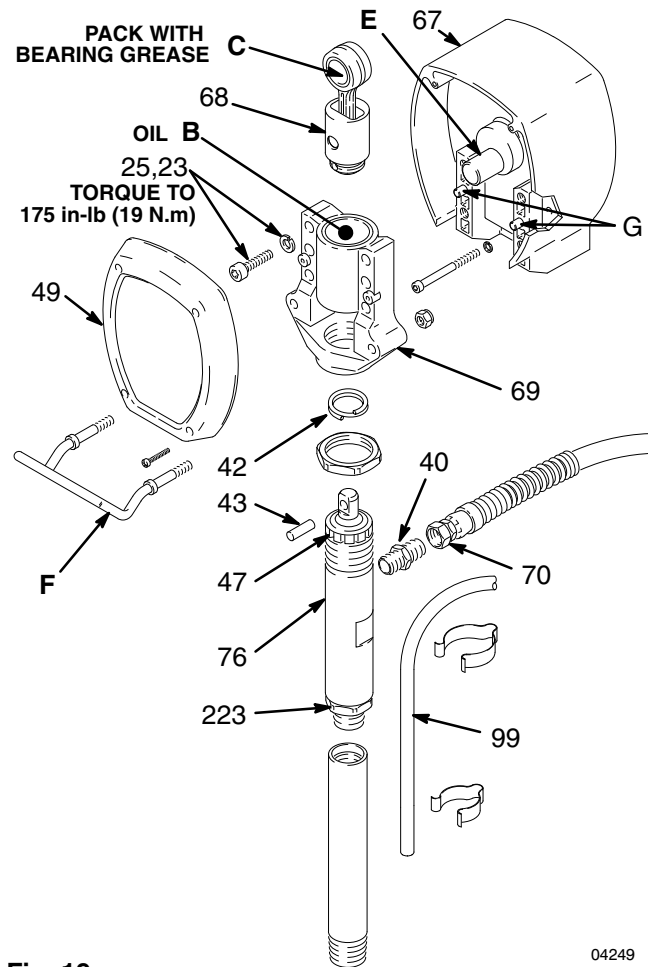

Fig. 19
Bearing Housing and Connecting Rod Replacement (Fig. 19)
4. Loosen the locknut (47). Unscrew the displacement pump (76).
6. Lightly tap the lower rear of the bearing housing (69) with a plastic mallet to loosen it from the drive housing (67). Pull the bearing housing and the connecting rod assembly (68) straight off the drive housing.
7. Remove the pail bracket assembly (F) and install it on the new bearing housing.
8. Inspect the crank (E) for excessive wear and replace parts as needed. Evenly lubricate the inside of the bronze bearing (B) with high quality motor oil. Liberally pack the roller bearing (C) with bearing grease.
9. Assemble the connecting rod (68) and bearing housing (69).
11. Align the connecting rod (68) with the crank (E) and the drive housing locating pins (G) with the bearing housing (69) holes. Push the bearing housing onto the drive housing or tap it into place with a plastic mallet.
14. Install the remaining parts. See Fig. 19.